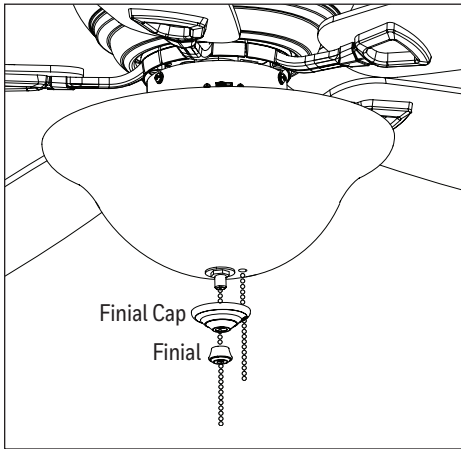

Figure 2.16
16. Feed the pull chains through the appropriate holes in the finial cap. Lift the finial cap up until it is flush with the glass bowl and secure with the finial (Figure 2.16).